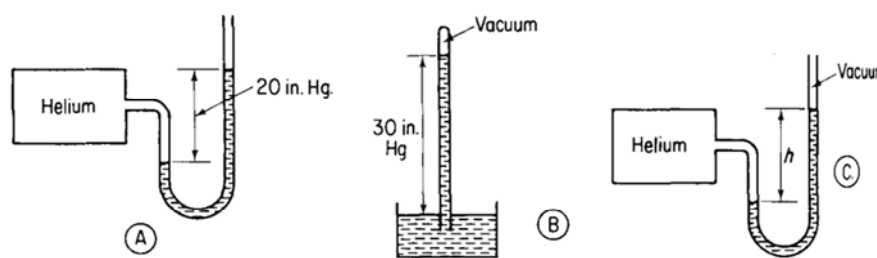

Figure SAT5.2P2A
a. What kind of pressure is measured by the device in Figure SAT5.2P2A?
- b. What kind of pressure is measured by the device in Figure SAT5.2P2B?
- c. What would be the reading in Figure SAT5.2P2C assuming that the pressure and temperature inside and outside the helium tank are the same as in parts (a) and (b)?